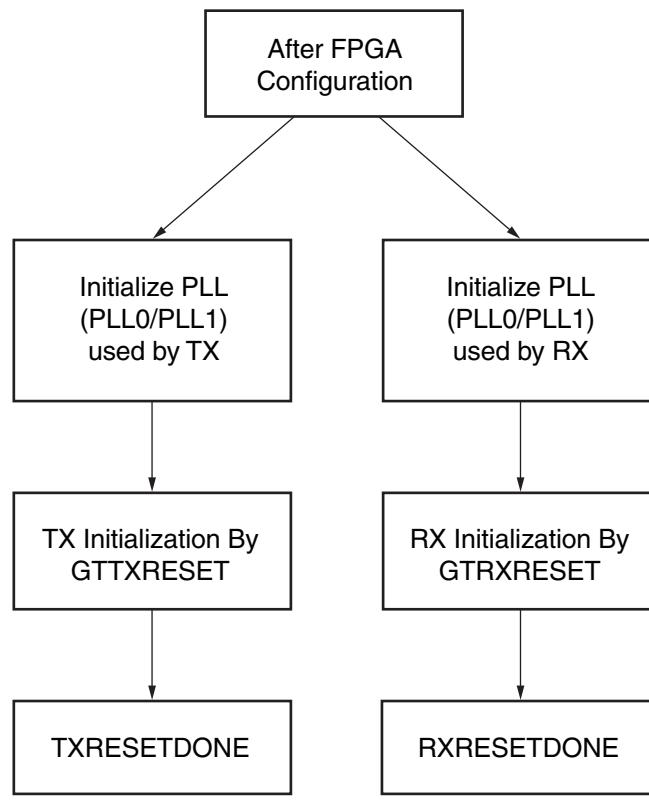

Figure 2-11: GTP Transceiver Initialization Overview
The GTP transceiver must be initialized after FPGA device power-up and configuration before it can be used. The GTP transceiver's transmitter (TX) and receiver (RX) can be initialized independently and in parallel as shown in Figure 2-11. The GTP transceiver's TX and RX initialization comprises two steps: